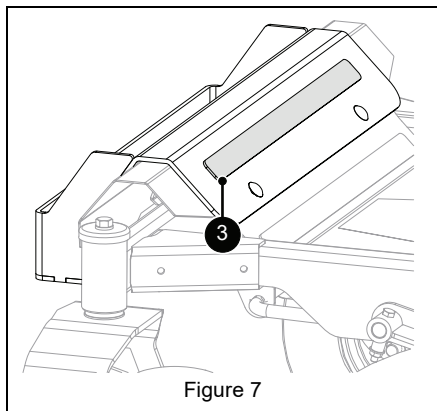

Figure 7
6. Adhere the grip adhesive (item 3) above the round head square neck bolts on the back of footrest. See Figure 7.